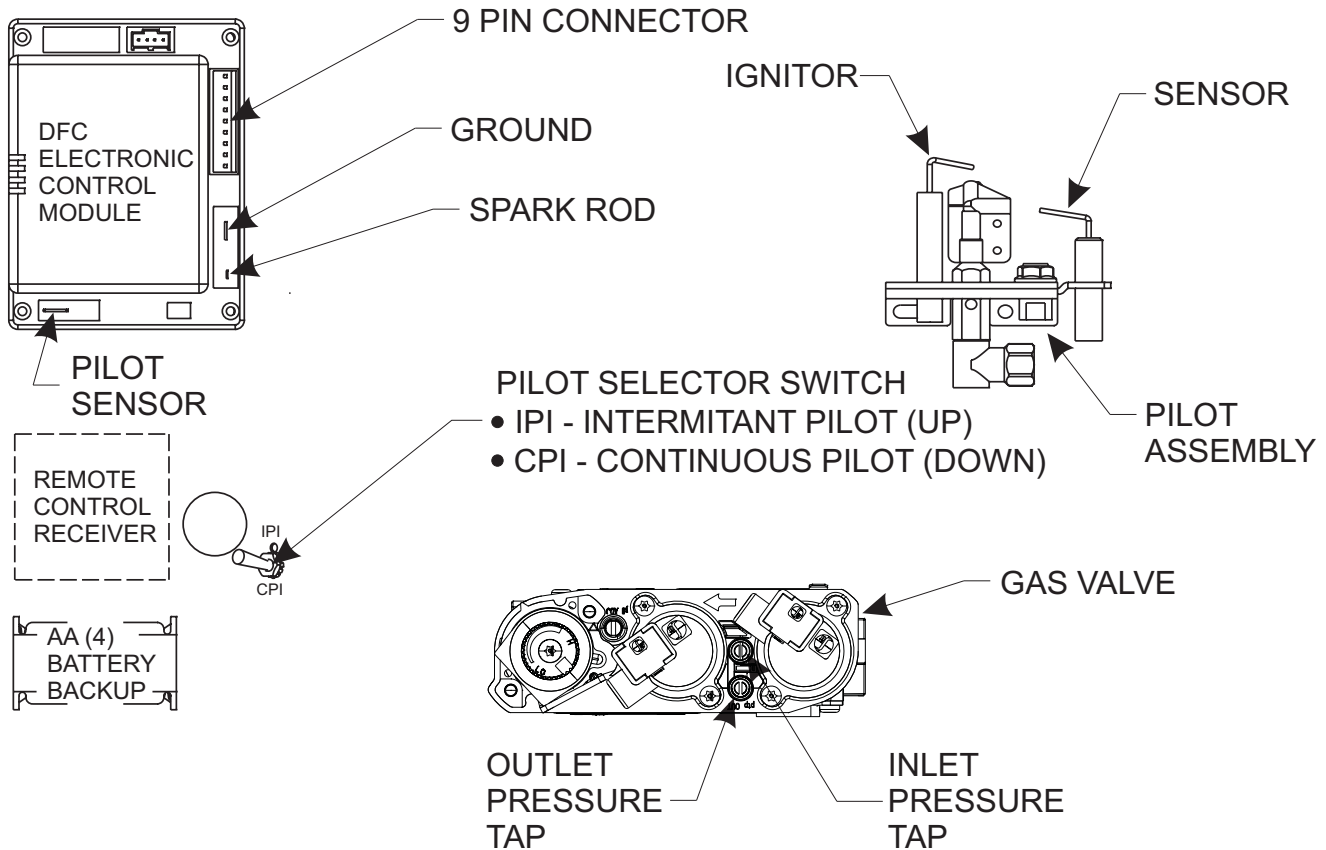

Figure 23
NOTE: A small toggle switch is located on a bracket that is used to switch from IPI (upward position) to the CPI (downward position). See **Figure 23**.
3. The gas valve has inlet and outlet pressure taps as shown in **Figure 23**. Refer to pages 10 and 11 for gas pressure requirements.
NOTE: The gas control has a manual HI/LO flame adjustment knob (regulator) that allows you to increase or decrease the height of the burner flame. See **Figure 23**. Rotate the HI/LO knob counterclockwise to "HI" to increase the flame height, and clockwise to "LO" to decrease the flame height.